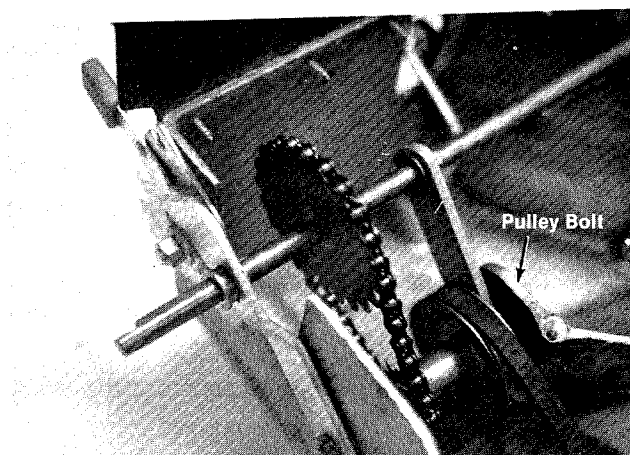

FIGURE 23
6. Remove the nut and slide the pulley bolt out. As the pulley bolt is removed, it will be necessary to remove two belleville washers, two flat washers, four spacers, the pulley/sprocket and the support link. See figure 23.